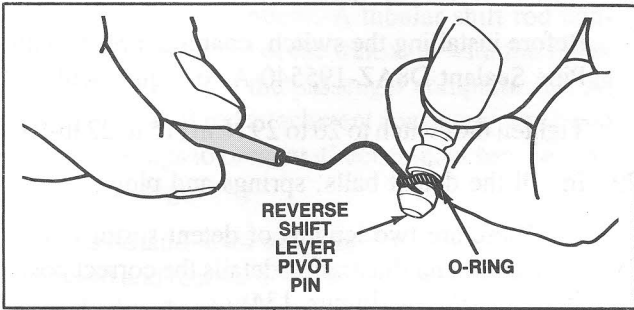

Figure 126 O-ring Installation
17. Install a new o-ring on the reverse intermediate lever pivot pin. (Figure 126).